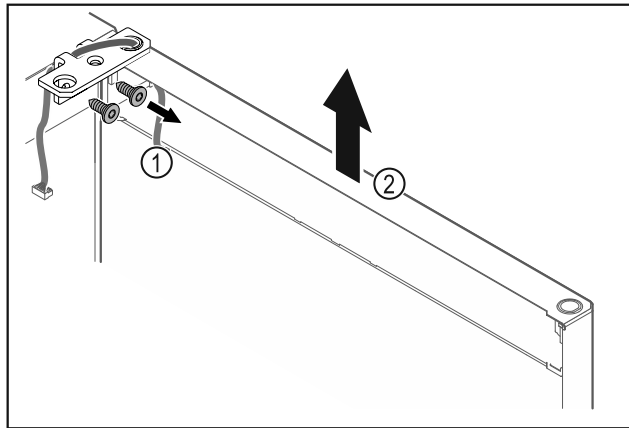

Fig. 26
- Unscrew the hinge Fig. 26 (1).
- Lift the door with the hinge straight up by Fig. 26 (2) roughly 200 mm and take it off.